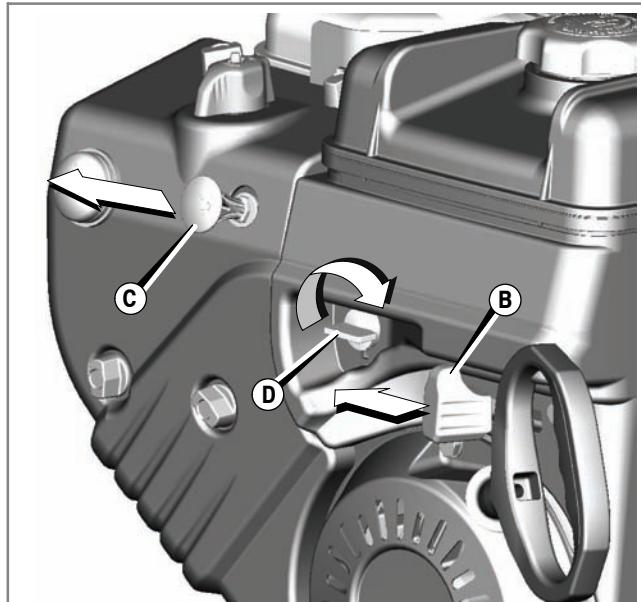

Figure 10
Move the throttle control lever (B), if equipped, to slow () and then to the stop () position (Figure 10).
2. Remove the safety key (C, Figure 10). Keep the safety key out of reach of children.
3. After the engine stops, turn the fuel shut-off valve (D) to the closed position.